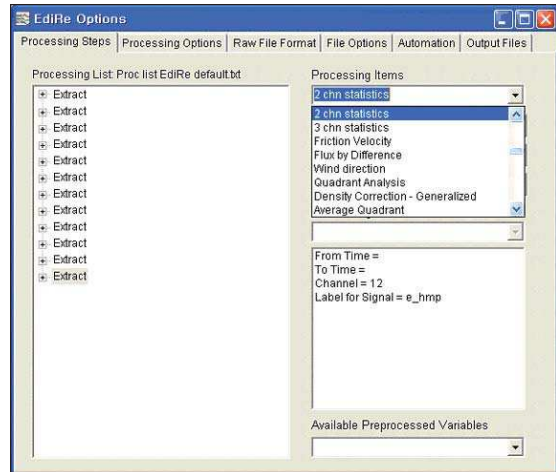

Figure 6: The processing item “2 chn statistics” is being selected from the list on the upper right.
14. Click on the “Processing Steps” tab. We can start adding the “Processing Items” in preparation for computing the covariances (see Figure 6). Click on the pull-down menu for “Processing Items” from the upper right corner. Scroll down to find “2 chn statistics”. You can also start typing the processing item name on the “Processing Items” line, if you know it beforehand. As you type the name EdiRe will automatically find the closest match from its list.